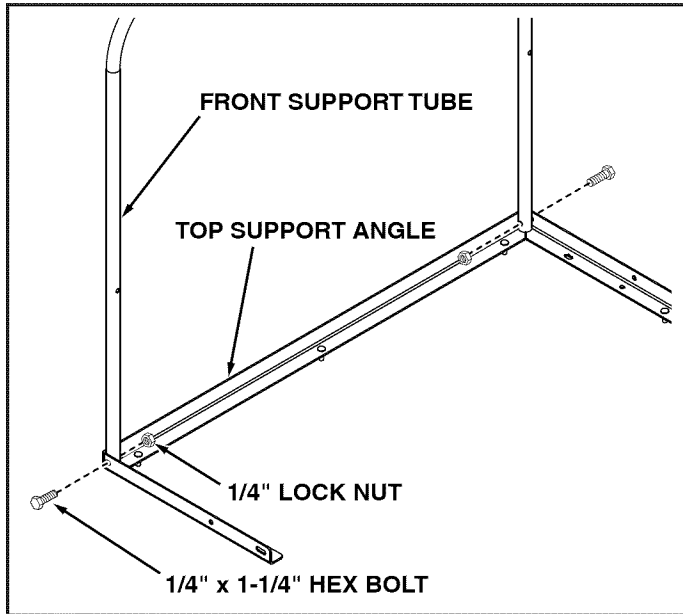

FIGURE 18
- Secure front support tube to top support angle using two 1/4" x 1-1/4" hex bolts and 1/4" lock nuts. **TIGHTEN. Do not over tighten** and collapse support tube. See figure 18.